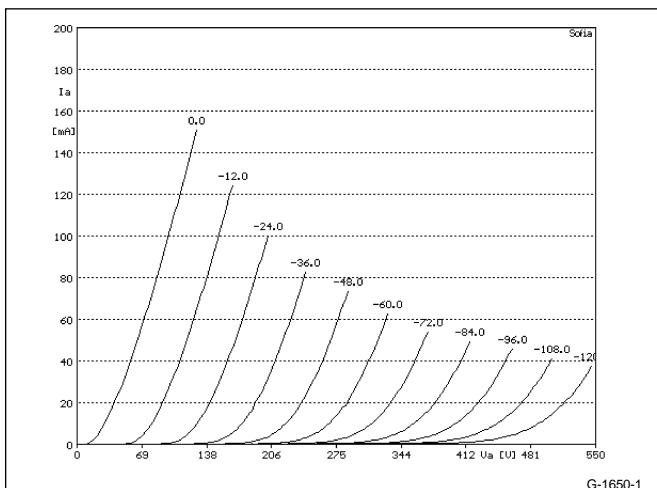

FIGURE 1: Plate curves for Sovtek 2A3 sample 12.
No test data was supplied with the tubes. I measured the dynamic characteristics using the Audiomatica Sofia vacuum-tube curve tracer, available from Old Colony Sound Lab, (888)-924-9465, www.audioXpress.com). Figures 1–4 are the plate curves for tubes number 12, 29, 31, and 39, respectively.